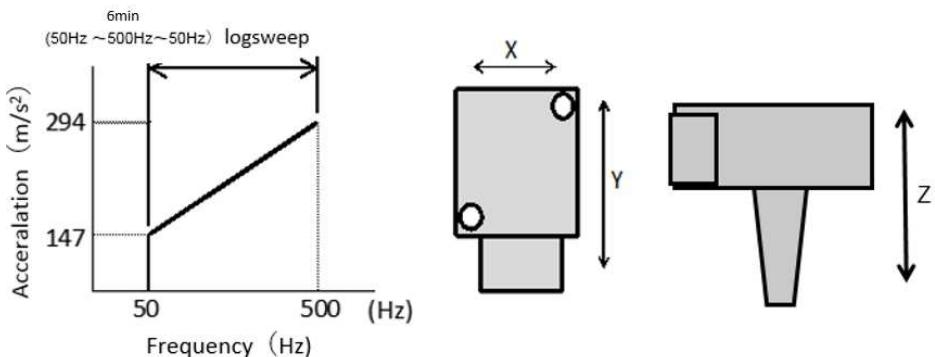

Fig5.振動条件 Vibration conditions
[試験条件] 加振条件 : Fig.5 による
[Test conditions] Excitation condition: According to the Fig.5
4)振動試験機の電源を入れ Fig5 の条件で振動させる。
1) Install the vibration test fixture on the vibration test chamber. 2) Place the sample in the vibration test jig in the X axis direction. 3) The sample is fixed at TPS output value of 0.7 V, 2.5 V, 4.1 V position. Connect the harness connector. 4) Turn on the vibration test chamber and vibrate under the conditions shown in Fig5.Then,program start of the vibration testing machine and 5 V was energized by DC power supply,Measurement is performed by memory high coder for 6 minutes. 5) After the device stops, attach the vibration test fixture in the Y axis and Z axis directions. Repeat steps 2) to 5). 6) Summarize the results into a report and submit.